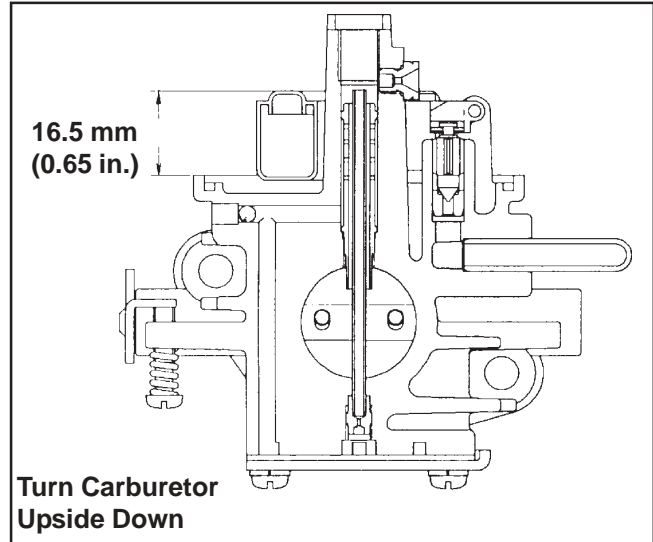

Figure 5-9. Proper Float Level.
6. Turn the carburetor body upside down and check the float level as shown in Figure 5-9. With the float needle valve fully seated, 16.5 mm (0.65 in.) should be measured from the body to the float as indicated. Don't attempt to adjust by bending the tab; replace the float with a kit if the level is wrong.